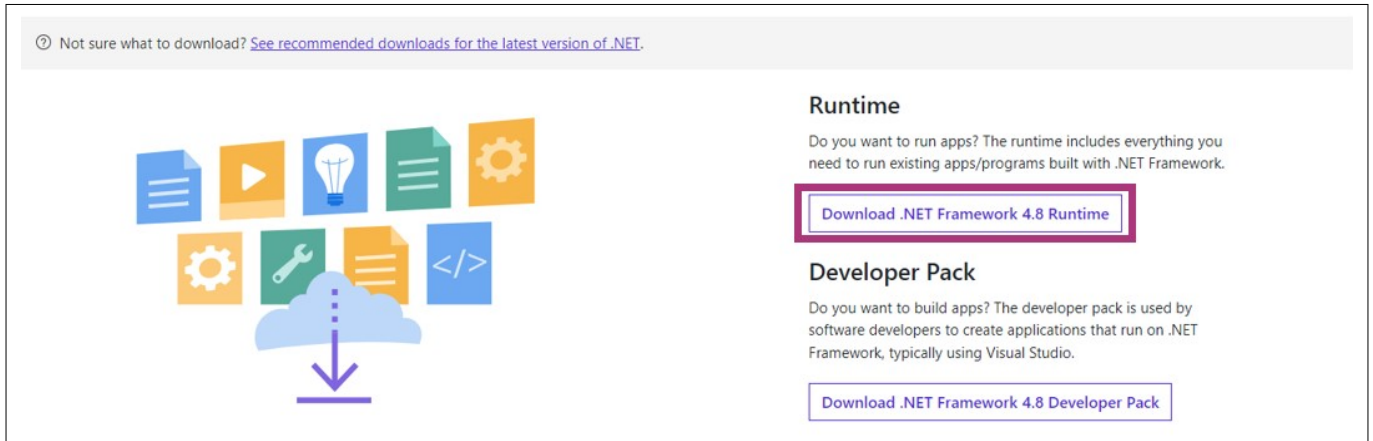

Figure 20 .NET Framework 4.8 download instruction – download portal
1. The GUI requires at least .NET Framework 4.7.2. The .NET Framework 4.8 can be installed from here. Download this version and follow the instructions. See Figure 20